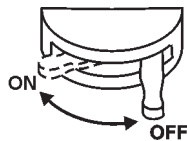

Figure 60. Battery Switch (OFF)
6. Set the **battery ON/OFF switch** (Figure 60) to the "**OFF**" position.